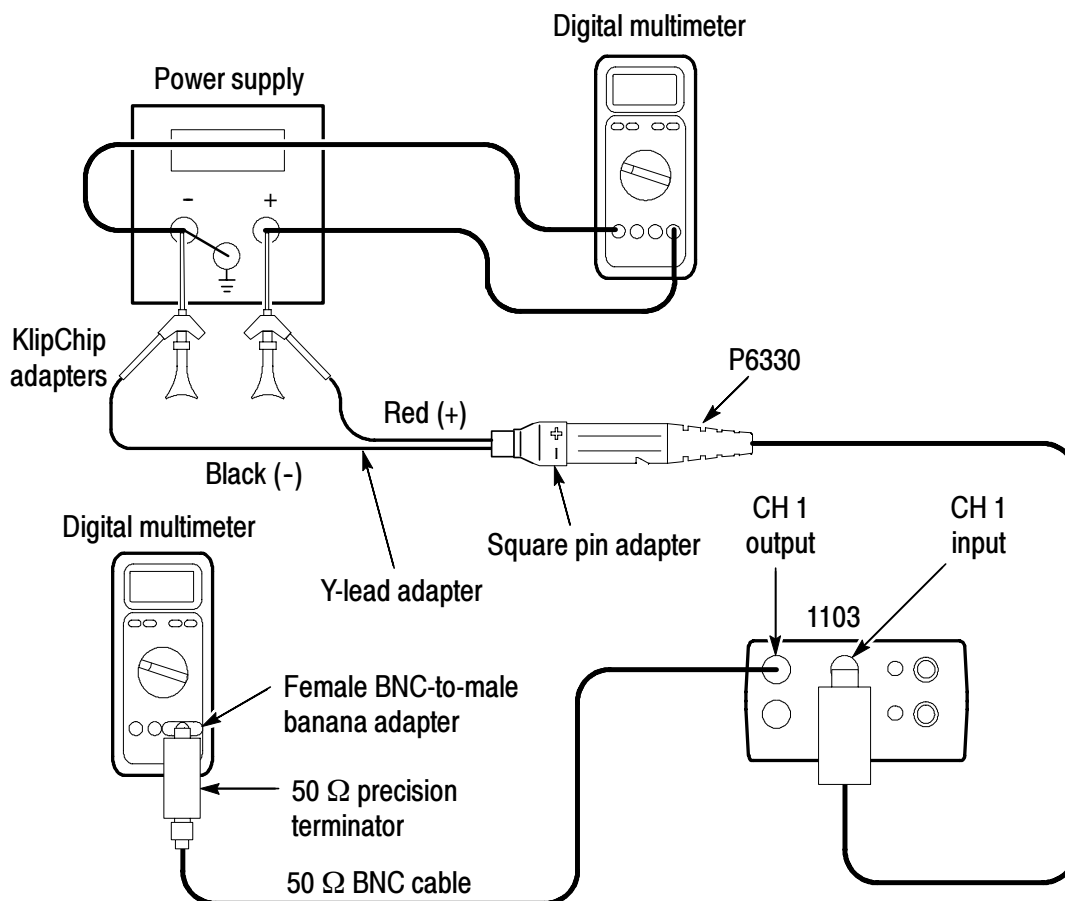

Figure 19: DC Gain Accuracy setup
1. Connect the probe input to the DC source, as shown in Figure 19 on page 42. Monitor the source voltage with the DMM.